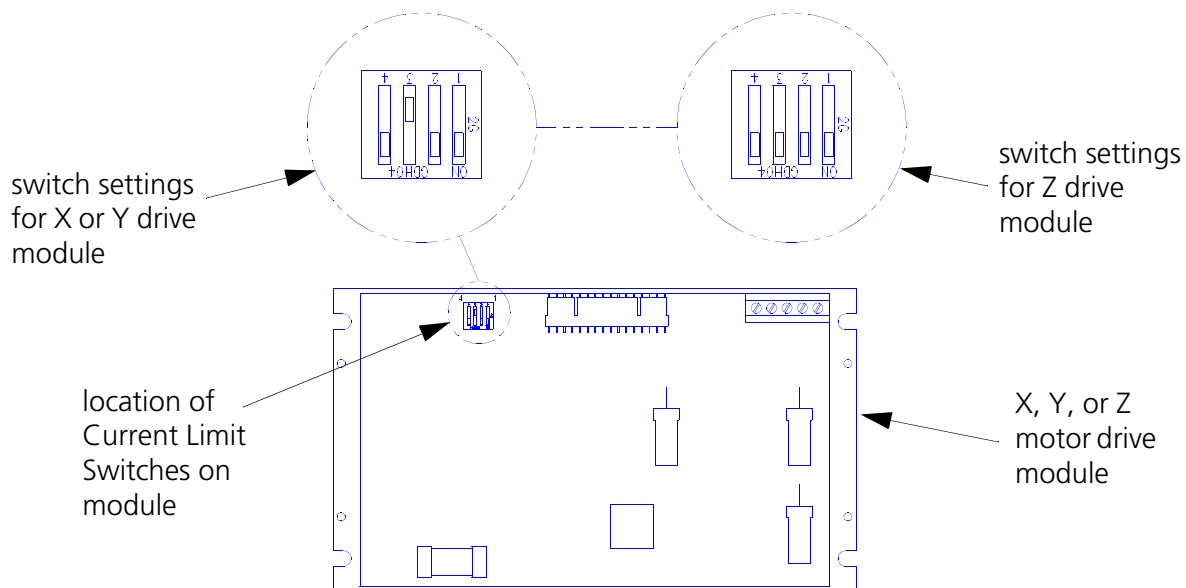

Figure 2-6
6. Refer to Figure 2-6 and locate the current limit switches on the drive module as indicated.